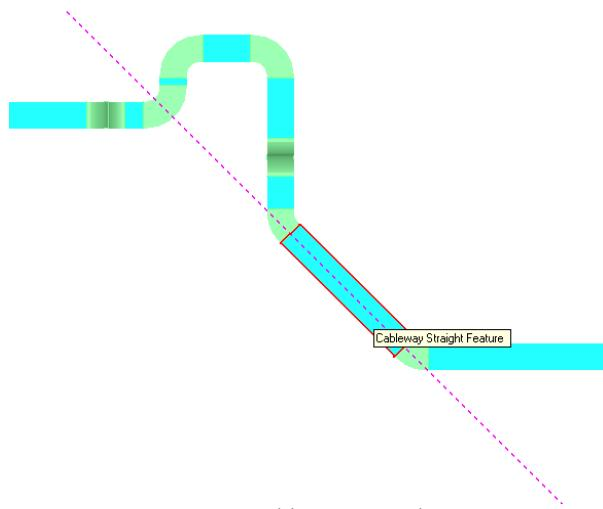

Figure 19: Cableway Straight Feature
33. Select the **Cableway Straight Feature** to specify the path along which you want to measure the placement distance of the tee, as shown in the highlighted section of Figure 19.